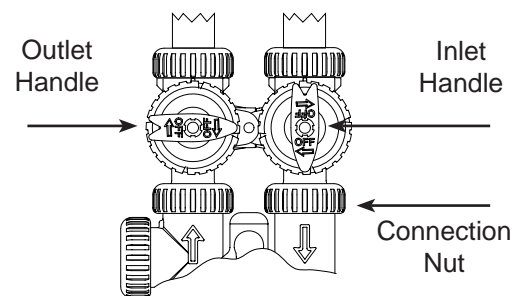

figure 3
12. Carefully turn water on to the system, open just the inlet valve handle on the bypass. *see figure 3*
16. Open the second valve handle (outlet) on the bypass. *see figure 3*